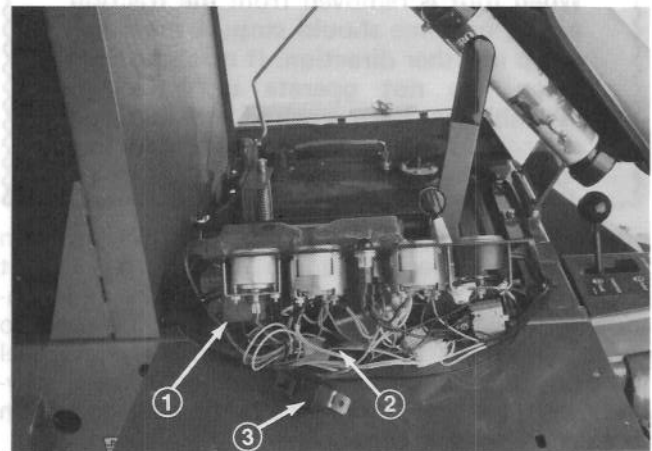

Figure 24
**Electrical System Fuses (Fig. 24)** – An engine temperature reset relay fuse – SFE 14 amp – is located at the rear of the reset relay. An inline fuse – AGC 10 amp – is also incorporated to protect the engine control module. Access to the fuses can be gained by removing the instrument panel cover.